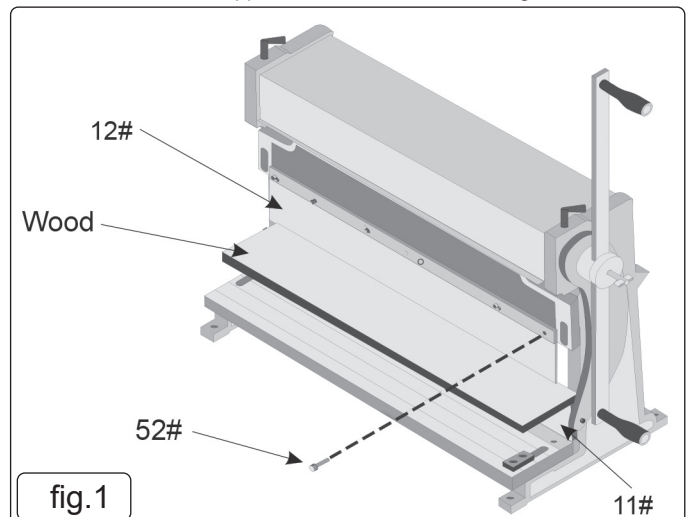

fig. 1
4.2.2.1. To adjust the spacing, perform the following steps: Place a flat straight piece of wood between the Fingers (12#) and Moving Cutter Plate (11#) and raise the Moving Cutter Plate (11#) so that the material just touches the Fingers (12#) as shown in Fig.1.